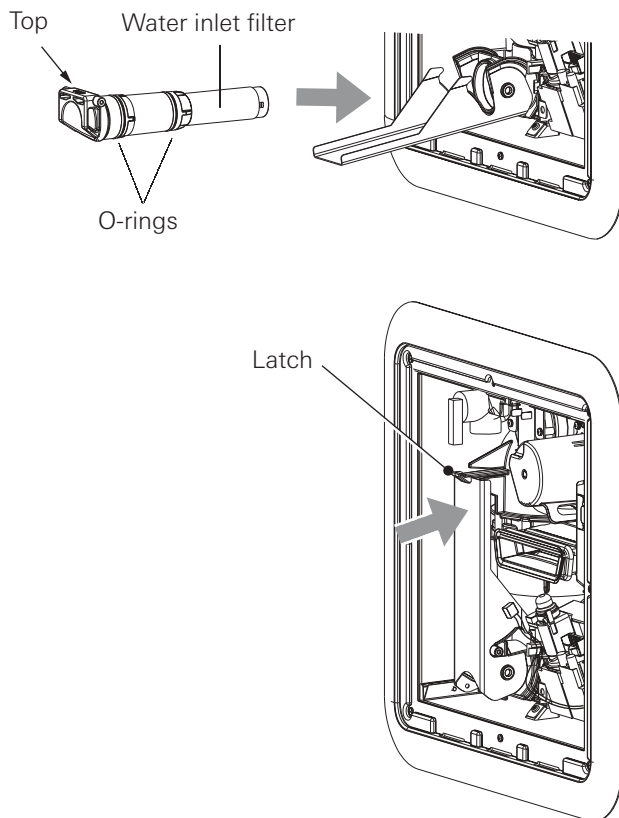

Fig. 11b
13. Install the water inlet filter as shown in Fig. 11b. Observe the correct installation position and close the Easy Drain Lever until it is locked by the latch.